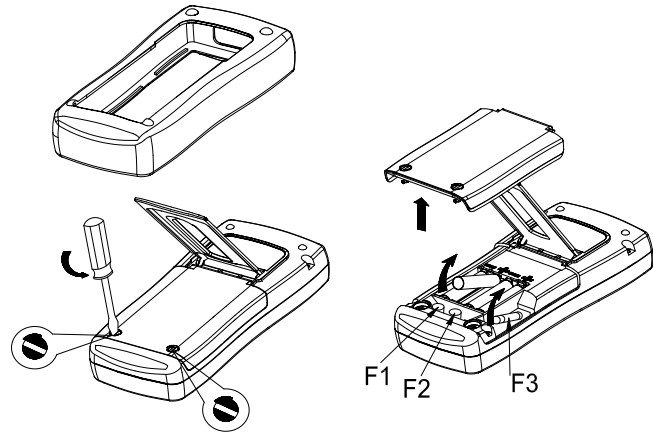

Figure 20 Replacing batteries and fuses
Step 2: Remove the protector as shown in Figure 20. With a standard blade handscrewdriver, turn each battery door screw a quarter counterclockwise to remove the battery door.